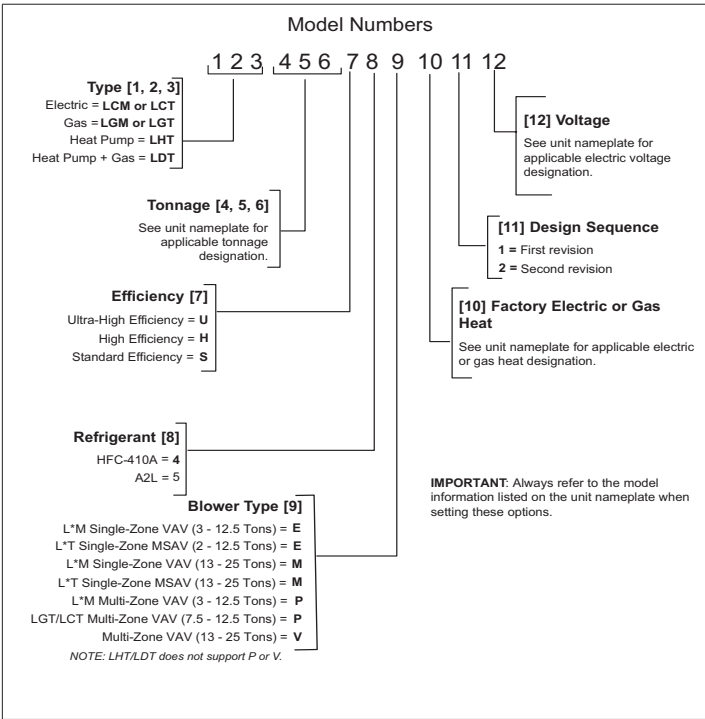

Figure 5. Model Number
- Model Number (see “Figure 5. Model Number”) and serial number. Model, serial, and catalog numbers are located on the RTU nameplate.